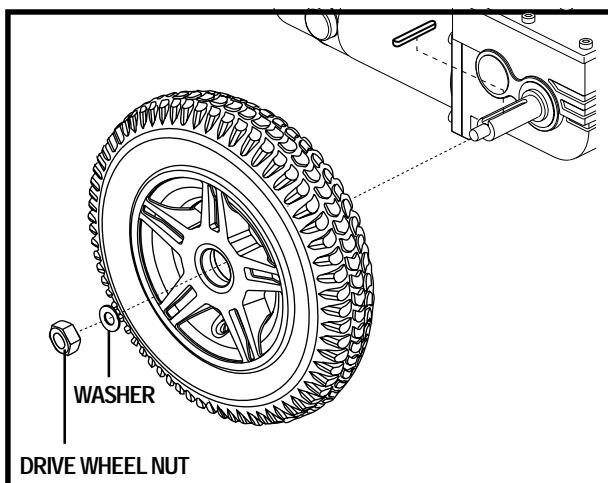

Figure 26. Jazzy 600 XL Drive Wheel
4. Remove the drive wheel nut and washer from the wheel hub. See figure 26.